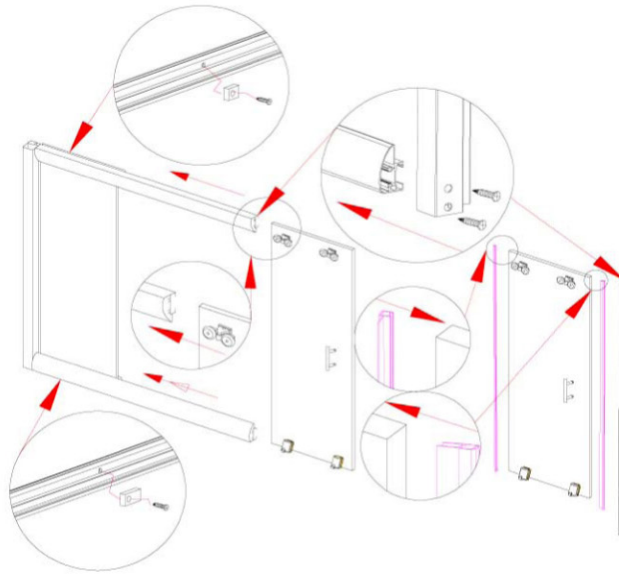

Fig 7
- Loosen the screws of the glass profiles, which are pre-mounted to the rail profiles (11), a little. Place the fixed glass panel (6) between the glass profiles and fasten the screws.
- Attach the magnetic profile (15) and the sealing profile (12) to the sliding door (7). Mount the handle (8).
- Place tandem rollers of the sliding door (7) into the upper rail profile (11). Connect the door profile (16) to both rail profiles (11) by using ST4.2x30 screws (5), as shown in figure 7. Fasten the door stop large (10) in the bottom rail profile (11) and the door stop small (13) in the upper rail profile (11), as shown in figure 7.